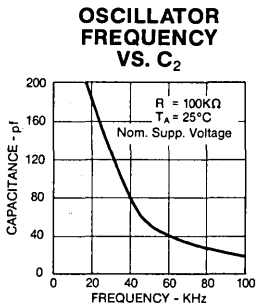

Fig. 6
- \*\* R2 (100KΩ), C2 (50pF) provide 50KHz clock frequency (see figure 6)